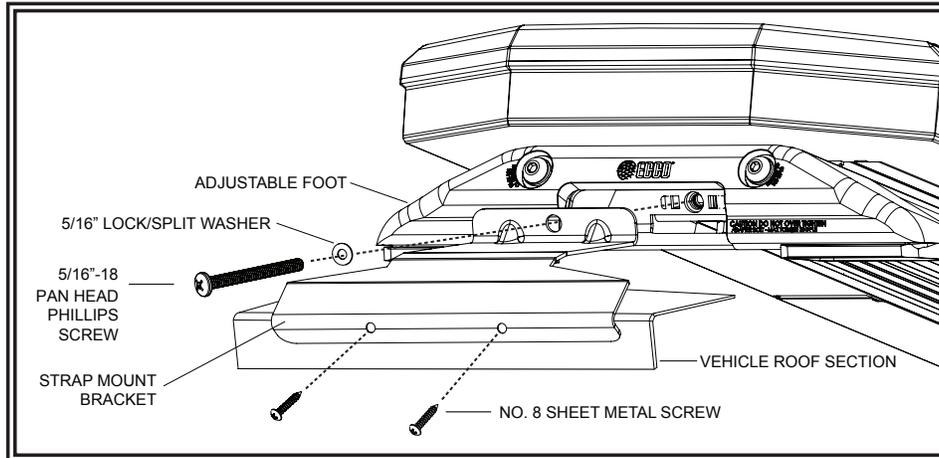

Figure 6
Step 2. Center the lightbar across the vehicle and align the strap mount brackets to hook into the gutter of the vehicles door frame as shown in FIGURE 6.